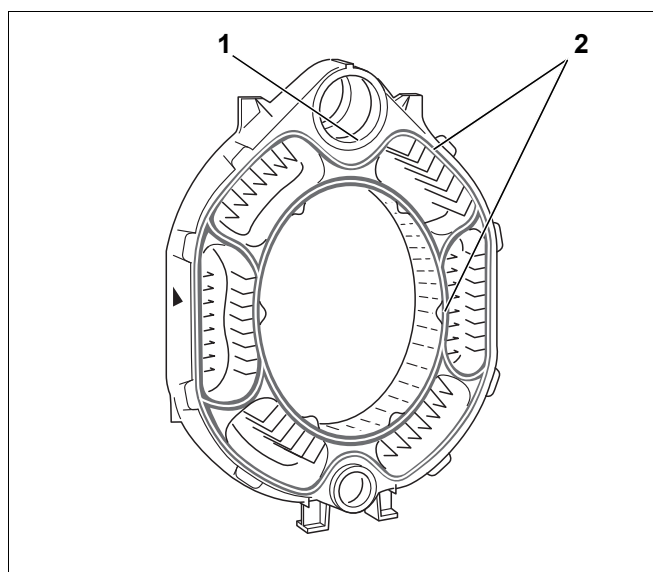

Fig. 12 Preparation of the central section
- Coat the hubs with the orange sealing compound (Marked as (LEINOMENNIGE)) (→ Fig. 12, [1]).
- Coat the sealing grooves with primer (→ Fig. 12, [2]).